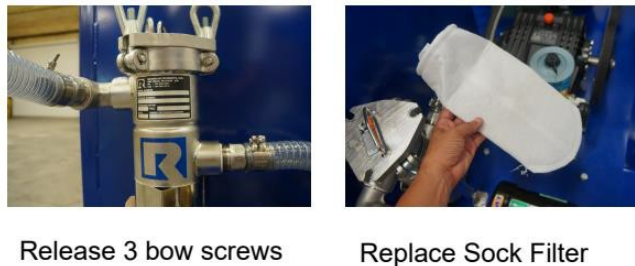

Figure 6.1 – Inspection / Cleaning Water Filter / Strainer
3. Inspect the inline strainer to ensure that it is not clogged (See **Figure 6.1**). Clean if necessary.
2. Unscrew the strainer bowl from the housing (turn counterclockwise) (See **Figure 6.1**).